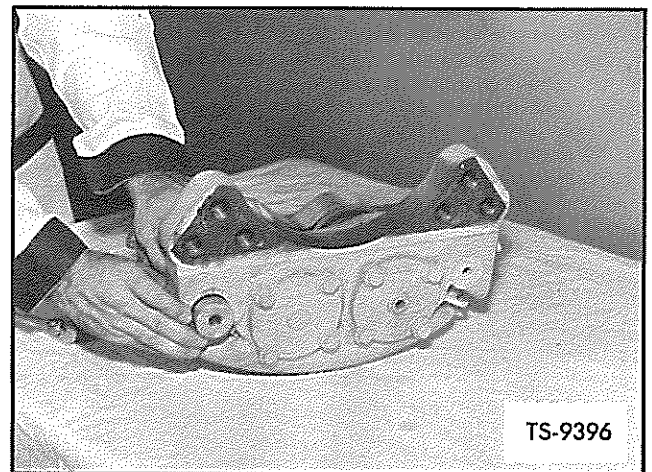

Fig. 13. Remove Unlocked Pins
4. Remove the two unlocked pins by pressing outward as illustrated in Figure 13.